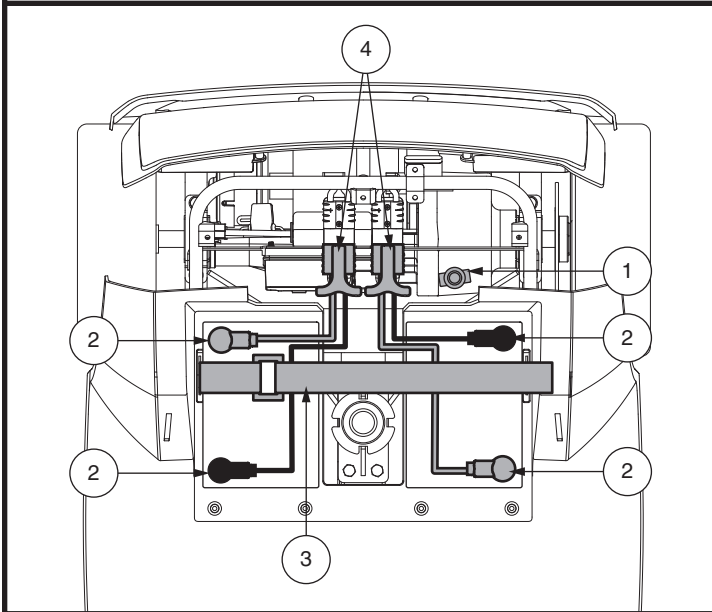

Figure 9. Battery Removal/Installation Terminals and Connections
2. Disconnect the battery tie-down strap. See figure 9.
3. Disconnect the battery harnesses by pulling on the T-shaped handle on the battery harness connectors and pulling them straight up. See figure 9.
6. Place a new battery in each battery well. Face the battery terminals of each battery opposite each other and toward the outer sides of the scooter. See figure 9.